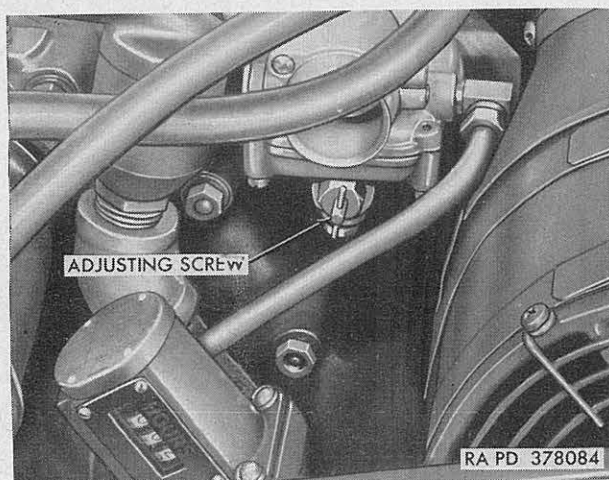

Figure 13. Location of main jet adjusting screw.
- (2) Open the main jet adjusting screw (fig. 13) about  $1\frac{1}{2}$  turns and idle adjusting needle (J) about one turn. Adjust throttle stop screw to obtain desired idling speed. Turn screw clockwise to increase speed, and counterclockwise to decrease speed.
- (3) Adjust idle adjusting needle (J) to obtain smooth idling at idling speed, readjust throttle stop screw (H), ((2) above), and again adjust idle adjusting needle (J) and throttle stop screw (H)